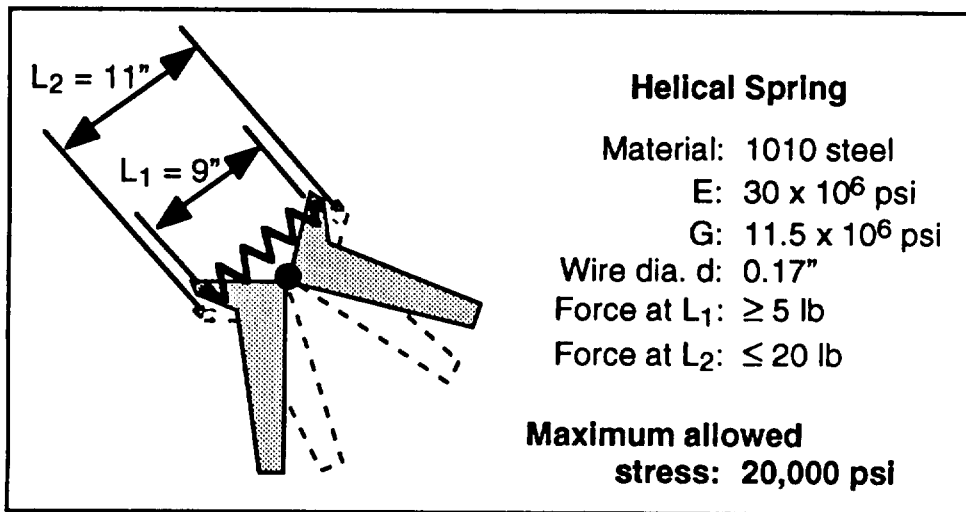

Figure 1 Gripper Spring Design Requirements
- i) Design a replacement spring for the robot arm using the information in Figure 1. At L_1 a small force is desired to facilitate easy spring replacement; as the gripper closes to L_2 the spring force increases but ideally should be kept below a maximum value. Be sure to state any assumptions you make.